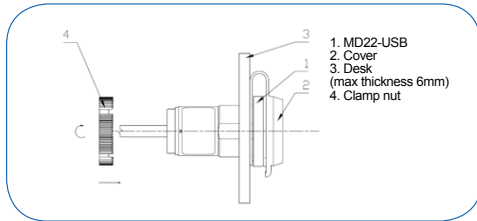

Fig. 1
MD22-USB communication (1) with cover (2) put into assembly hole at the front side of the desk(3). Then, the clamp nut (4) under the desk is tightened all the way. Fig. 1